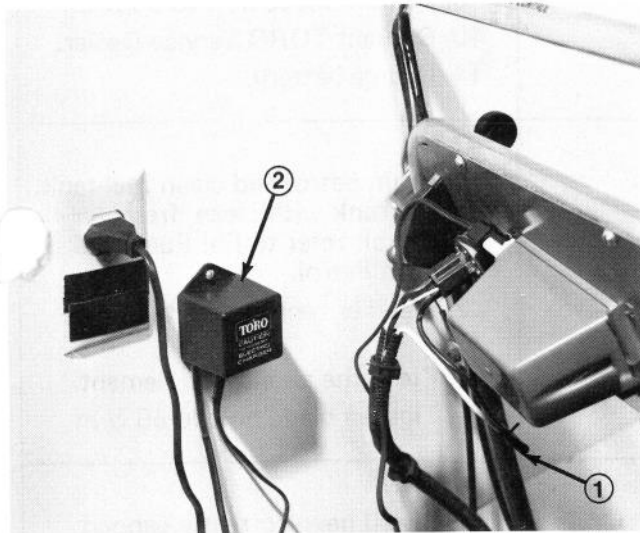

Figure 44
3. Push Electro Charger connector onto battery terminal (Fig. 44). Next, insert charger into power outlet (Fig. 44).